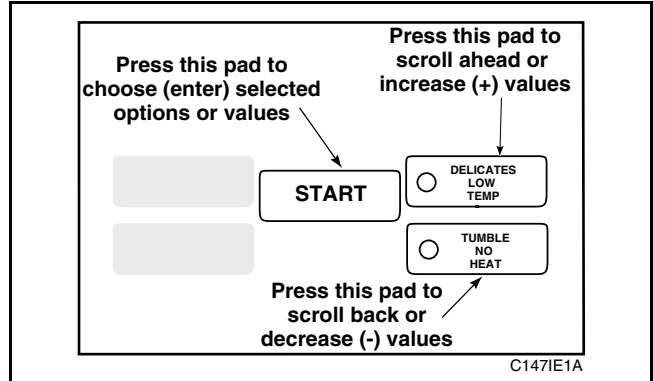

Figure 63
5. Press the LOW TEMP (+) pad or the NO HEAT (-) pad to increase or decrease the current number of coins displayed in the VFD to the desired number of coins, *Figure 63*.